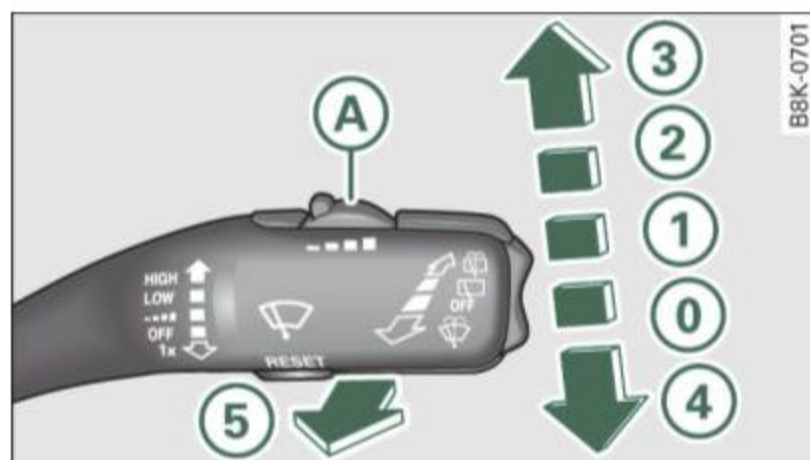

Fig. 60 Windshield wiper lever
- If the wiper blades are not frozen to the windshield, bring the windshield wiper lever to the basic position ① ⇒ page 62, fig. 60.